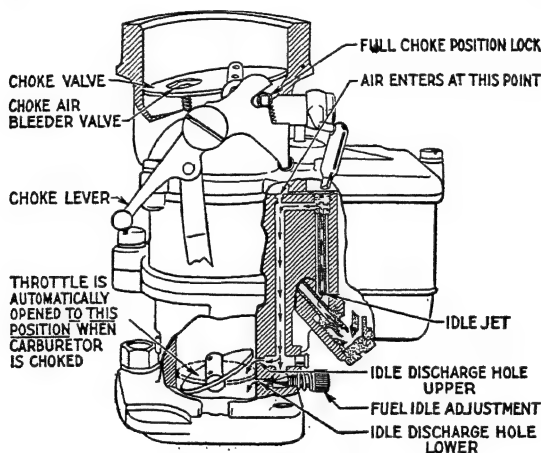
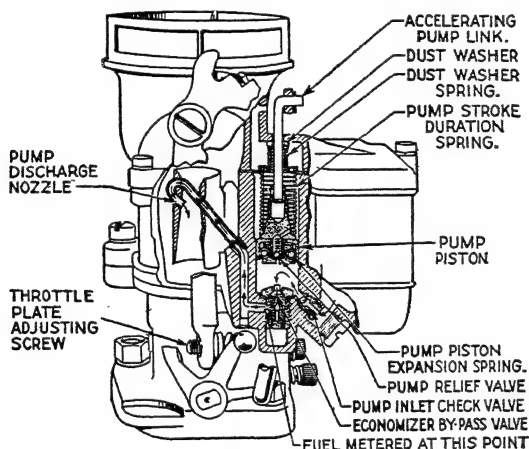

Fig. 120. Ford "V-8" Carburetor
Fig. 122. Accelerating Pump of Ford "V-8" Carburetor
*Idling—Fuel Supply.* The fuel from the carburetor bowl passes through the main metering jet and is drawn upward as indicated by the arrows in Fig. 120. Air enters this gasoline stream from the carburetor throat, as shown. This mixture or emulsion of gasoline and air then travels downward to the idle discharge holes.
Fig. 120 (speed equivalent to from 5 to 7 miles per hour), the lower discharge hole only is subjected to intake manifold vacuum. The other idle discharge hole being above the throttle plate is not affected by this intake manifold vacuum and for this reason does not discharge any fuel with the throttle in this position. The lower idle discharge holes are provided with a means of adjustment (see fuel idle adjustment, Fig. 120).
matically open to the correct position for starting. For this reason it is neither necessary nor desirable for the operator to pull out the throttle button when starting. Fig. 120 illustrates the throttle plate position while the carburetor is choked. In this position the throttle plate is directly opposite the upper idle discharge hole and the stream of air passing around the throttle plate draws the fuel from both upper and lower discharge holes, whereas, in the normal idling position, as indicated by the dotted line, the fuel is drawn from the lower discharge hole only.
*Accelerating Pump.* An accelerating pump is provided to slightly enrich the mixture for rapid acceleration. Movement of either the foot or hand throttle causes movement of the accelerating pump. An accelerating pump inlet check valve is provided to prevent the accelerating pump from pumping the fuel back into the float bowl, Fig. 122. The pressure on the gasoline, exerted by the accelerating pump in its downward movement, opens the spring loaded valve directly beneath the spring loaded valve which is directly beneath the piston, and permits the gasoline to be forced out through the accelerating pump discharge tube and nozzle. However, a restriction has been provided to meter the gasoline and minimize the possibility of flooding.
*Adjusting.* The idle speed of the engine should be set by means of the throttle-plate adjusting screw, Fig. 122, to a speed equivalent to five miles an hour. For the idle mixture adjustment, have the engine well warmed up and be sure that there are no air leaks at the intake manifold, windshield wiper, and distributor vacuum connections. The idle speed should be set as outlined above. The fuel idle-adjustment needle valves, shown in Fig. 120, control the quantity of the gasoline-air mixture for low-speed operation. The turning out of the valves gives a richer mixture. The turning in of the valves gives a leaner mixture. Adjust one side of the carburetor at a time. Turn the valve in slowly until the engine begins to lag or run irregularly,